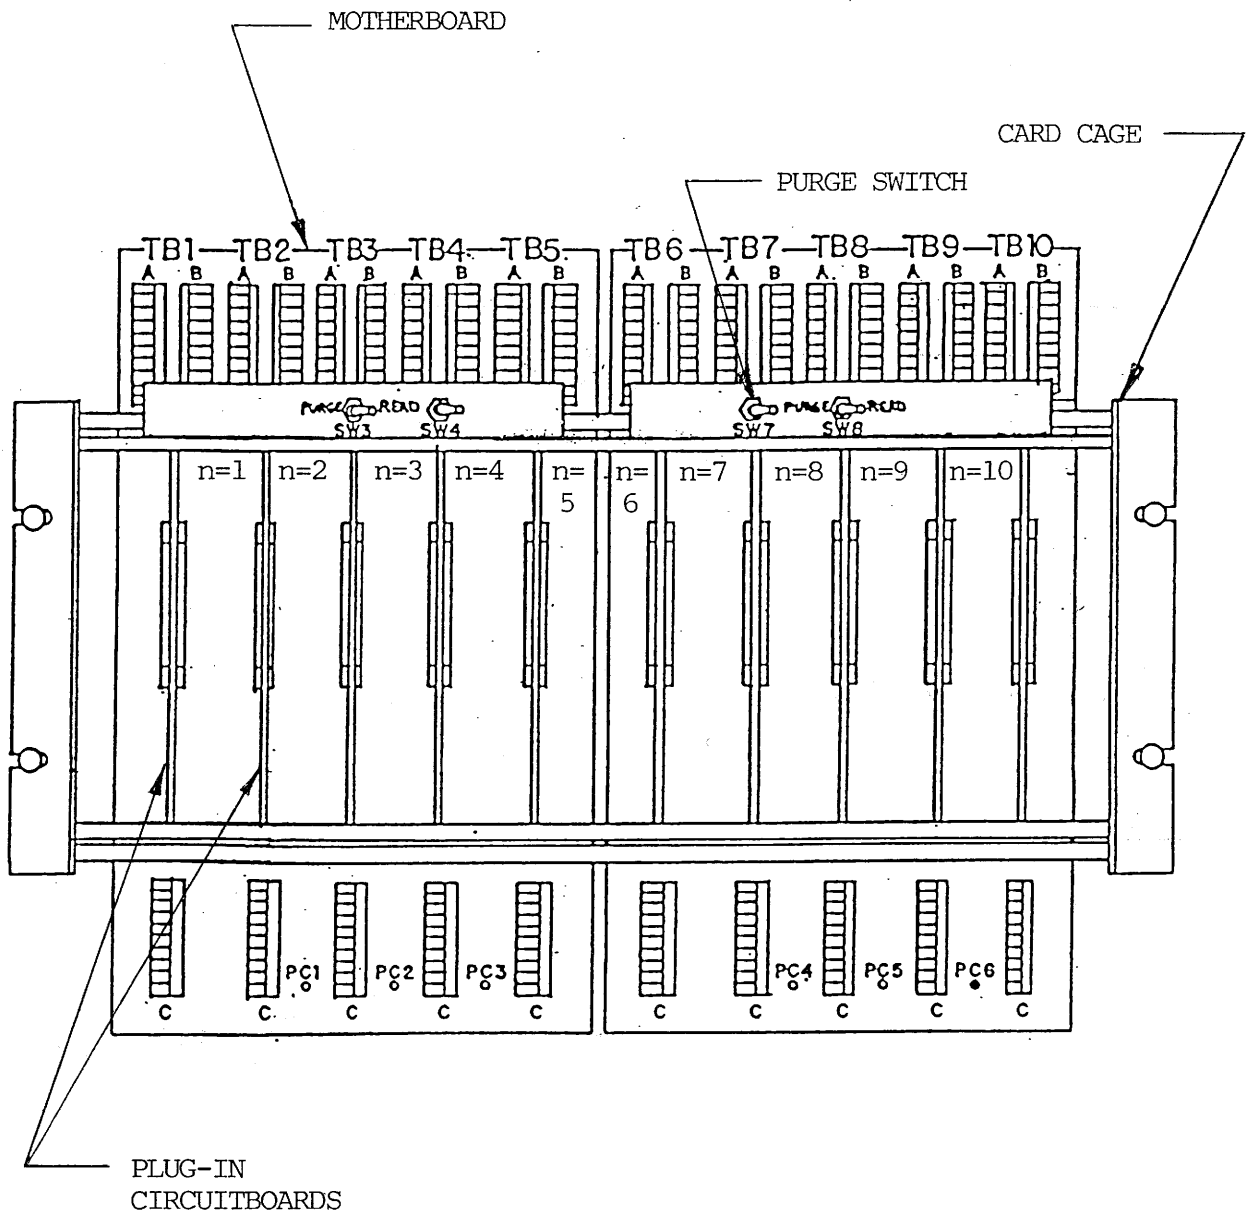

FIGURE 4: ISA-44 SYSTEM WIRING FEATURES
Use in Conjunction with Figure 4
- 2.0 Three terminal strips, designated TB(n)-A, TB(n)-B, and TB(n)-C, are associated with each plug-in circuitboard position, as shown in Figure 4. Relay contact positions, NC, NO, and Common, are given below for the unpowered condition, which is identical to the alarm condition.